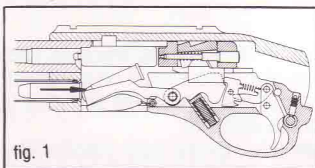
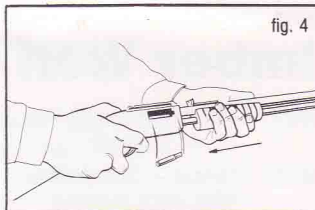

fig. 1
fig. 4
**By sliding the pump rearward**, the shell latch allows the first cartridge to move out of the magazine tube and onto the carrier. (fig. 1)
**By sliding the pump rearward again after firing**, the extractor removes the empty cartridge case from the chamber and the ejector pushes it out of the rifle. (fig. 4) Simultaneously, the shell latch allows the second cartridge to move out of the magazine tube and onto the carrier. (see fig. 1)